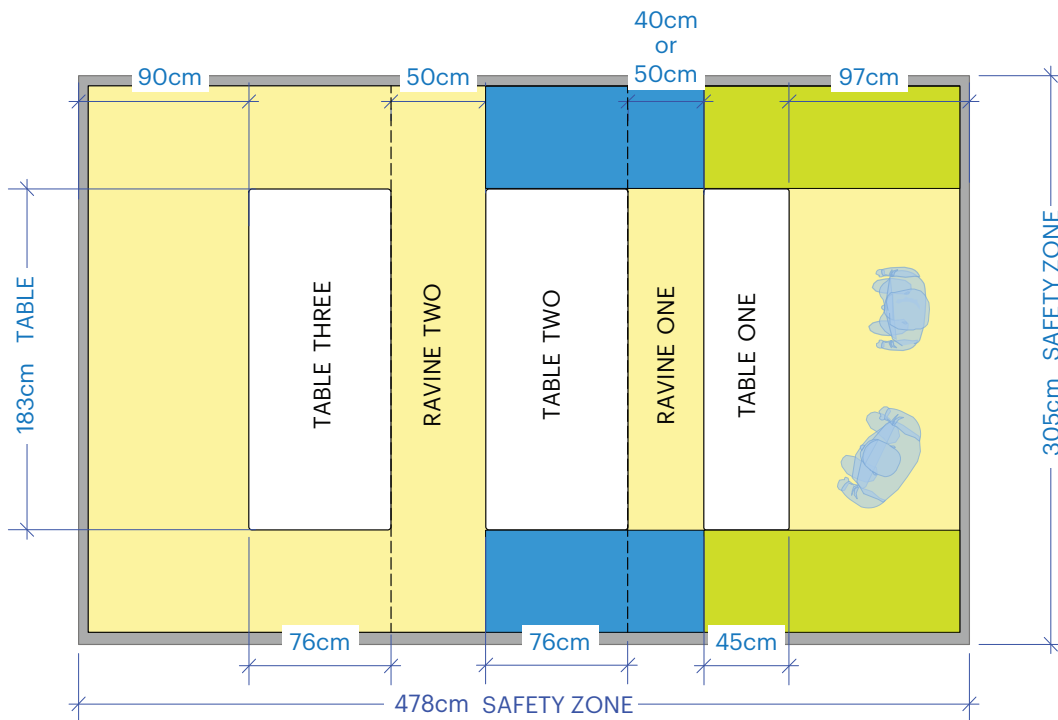

Figure 3.
3. During setup teams can access all sides of the tables and the ravines. While device is crossing Ravine One, students must remain in the green area. While device is crossing Ravine Two, students must remain in the green or blue area. Teams may only stand in the ravines during setup. See Figure 3.